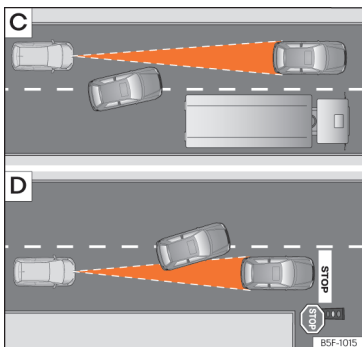

Fig. 135 C Vehicle changing lanes. D One vehicle turning and another stationary.
- Vehicles that move into your lane, a short distance from your vehicle » » » Fig. 135 C.
The ACC may not react to stationary vehicles. If, for example, a vehicle detected by the ACC turns or moves over and there is a stationary vehicle in front of it, the ACC will not react to the second vehicle » » » Fig. 135 D.